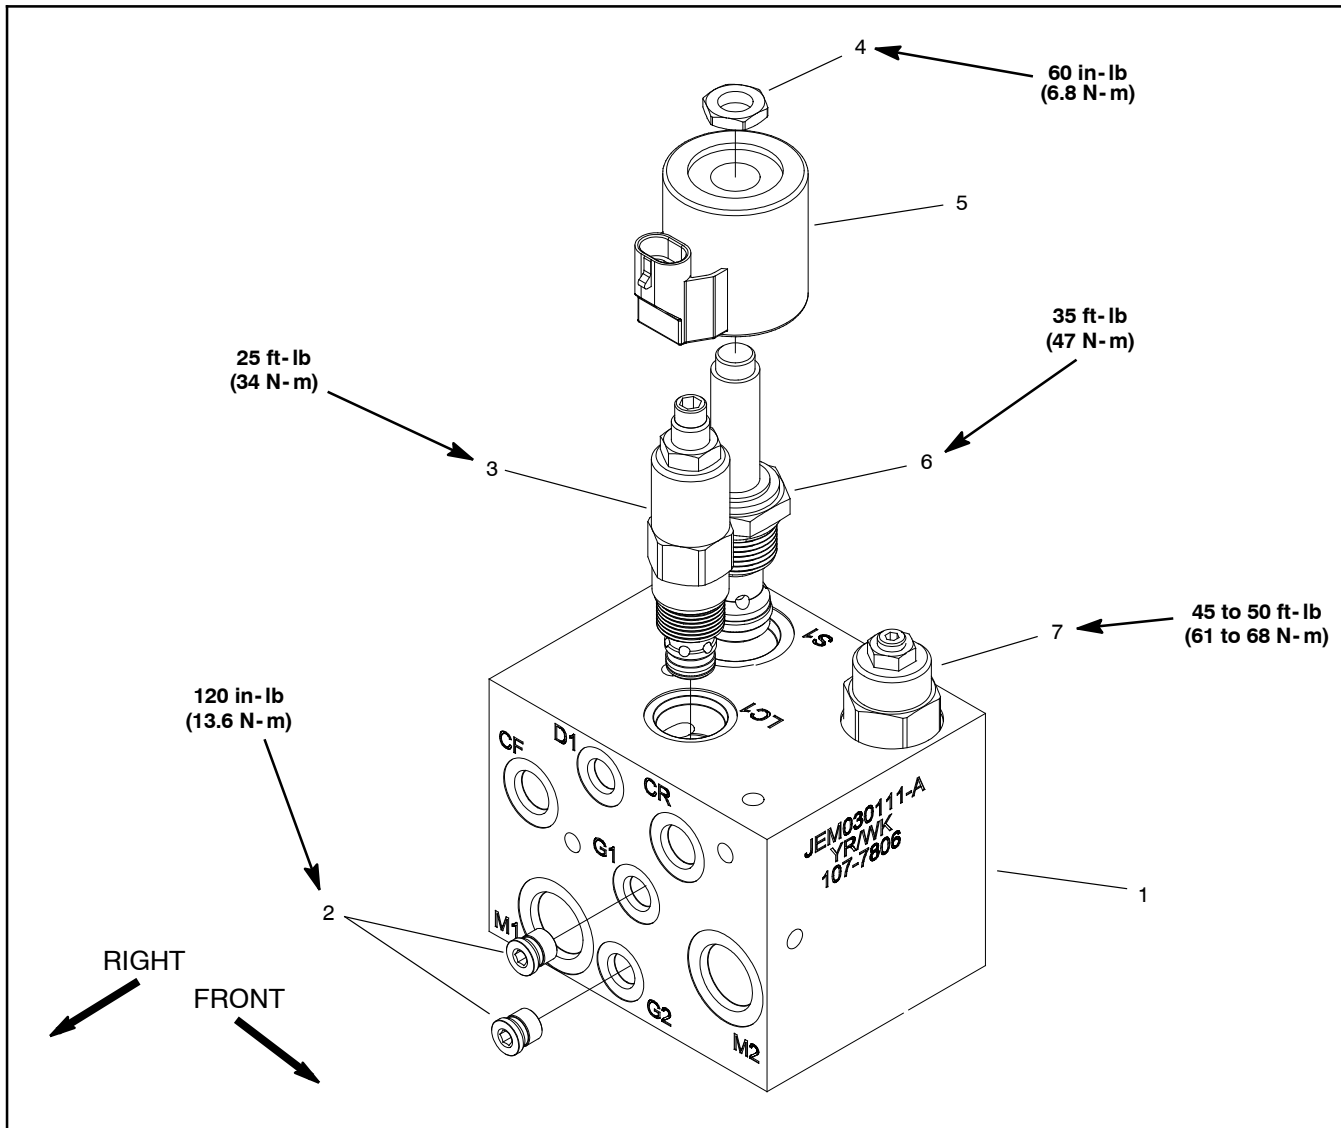

Figure 97
### Cartridge Valve Service (Fig. 97)
- C. Torque cartridge valve using a deep socket to valve identified in manifold illustration (Fig. 97).
- D. If cartridge is solenoid operated, carefully install solenoid coil to the cartridge valve. Torque nut to valve identified in manifold illustration (Fig. 97).